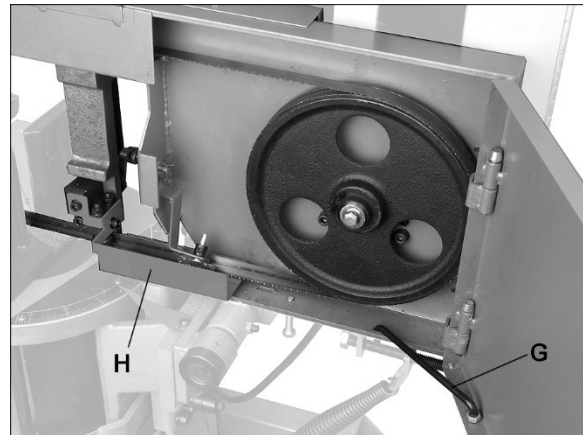

Figure 7-5
3. Open wheel guards and prop them open with the attached rods (G, Figure 7-5). Remove red blade guards (H).